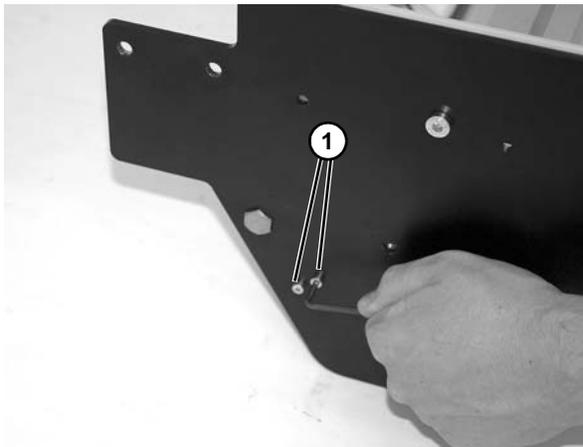

Figure 49
8. Remove two socket head screws (Figure 49, item 1) on both sides of the conveyor.